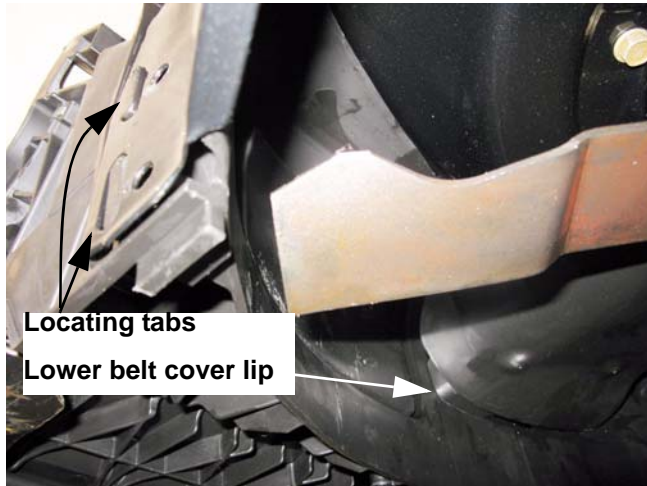

Figure 4.63
11. The two locating tabs on each side of the rear baffle must be seated in the slots behind the rear baffle mounting screws before the screws are tightened. See Figure 4.63.